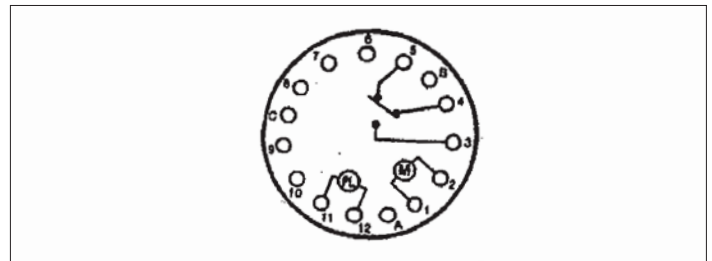

Figure 2
2. Rear terminals connections are as follows in Figure 2: